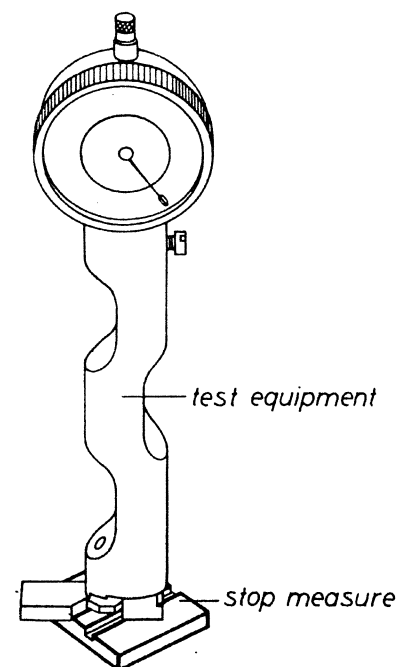

Fig. 35.1
- 3.1 Place the test equipment 08-27.30 Z1 A12 on to the stop measure, setting the dial of the dial gauge to 0 (see Fig. 35.1).